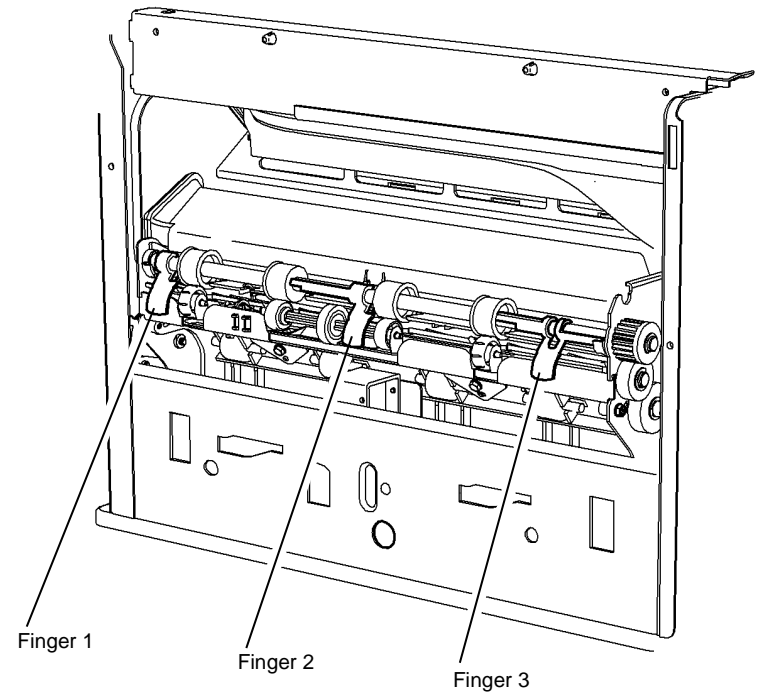

Figure 2 Finger install
4. Install three OCT fingers on to the exit shaft assembly, Figure 2.